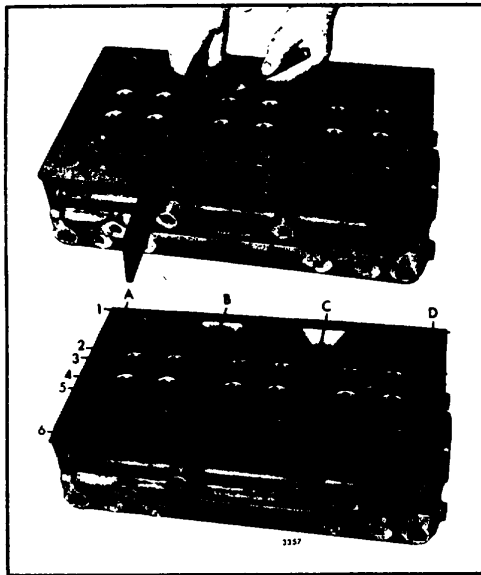

Fig. 3. - Checking Bottom Face of Cylinder Head for Warpage
- a. Use an accurate straightedge and feeler gage J 3172 to check for transverse warpage at each end and between all of the cylinders. Also, check for longitudinal warpage in six places as shown in Fig. 3. Maximum allowable warpage is given in the following chart: